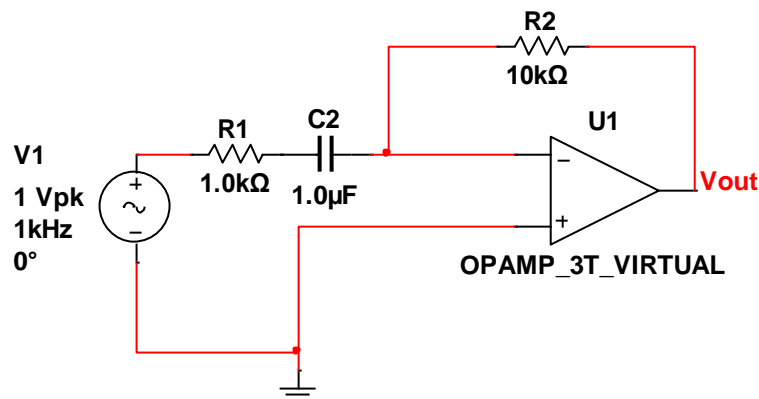

Figure 3: Active highpass Filter
2. Build the circuit in Figure 3 in MultiSim and run an AC analysis from 10 Hz to 100 kHz, what is the cut off frequency and gain? You should include the gridlines and reverse the plot to have a white background. Include the plot in your prelab submission.